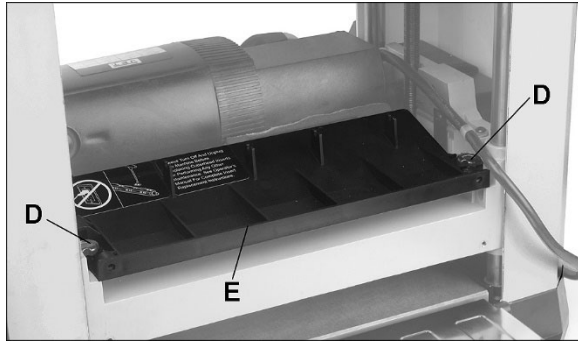

Figure 8-3: removing deflector cover
2. Unscrew two knobs (D, Figure 8-3) and remove deflector cover (E).